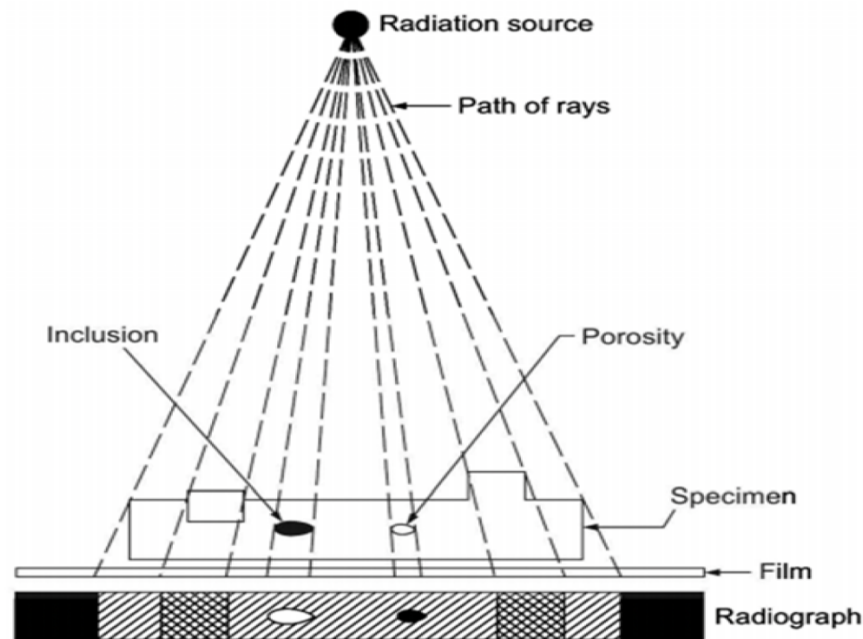

Fig. 4.17: Radiograph showing differential absorption.
- **Principle:** Short-wavelength radiation (X-rays or γ -rays) is passed through a component. Denser areas and thicker sections absorb more radiation. The transmitted radiation is recorded on a film (**radiograph**), where dark areas indicate less absorption (e.g., voids, pores) and light areas indicate more absorption (e.g., dense inclusions). (**Fig. 4.17**)